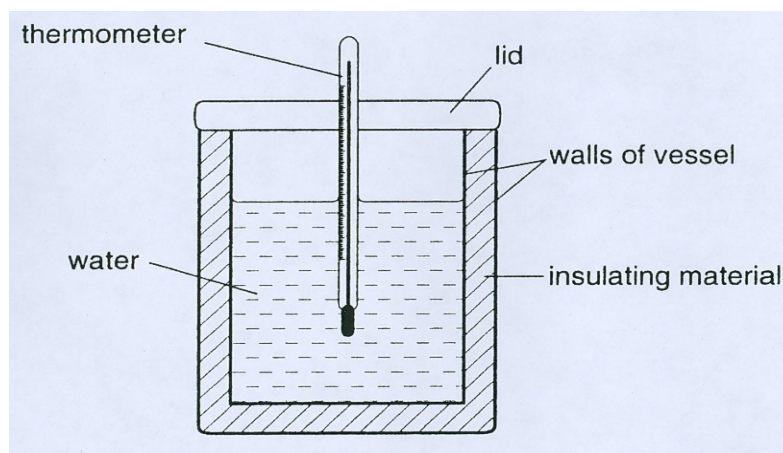

Fig. 1.1
- (b) A group of students has designed a piece of apparatus to test the effectiveness of insulating materials in the walls of refrigerators, Fig.1.1.
- (b)** A group of students has designed a piece of apparatus to test the effectiveness of insulating materials in the walls of refrigerators, Fig 1.1.